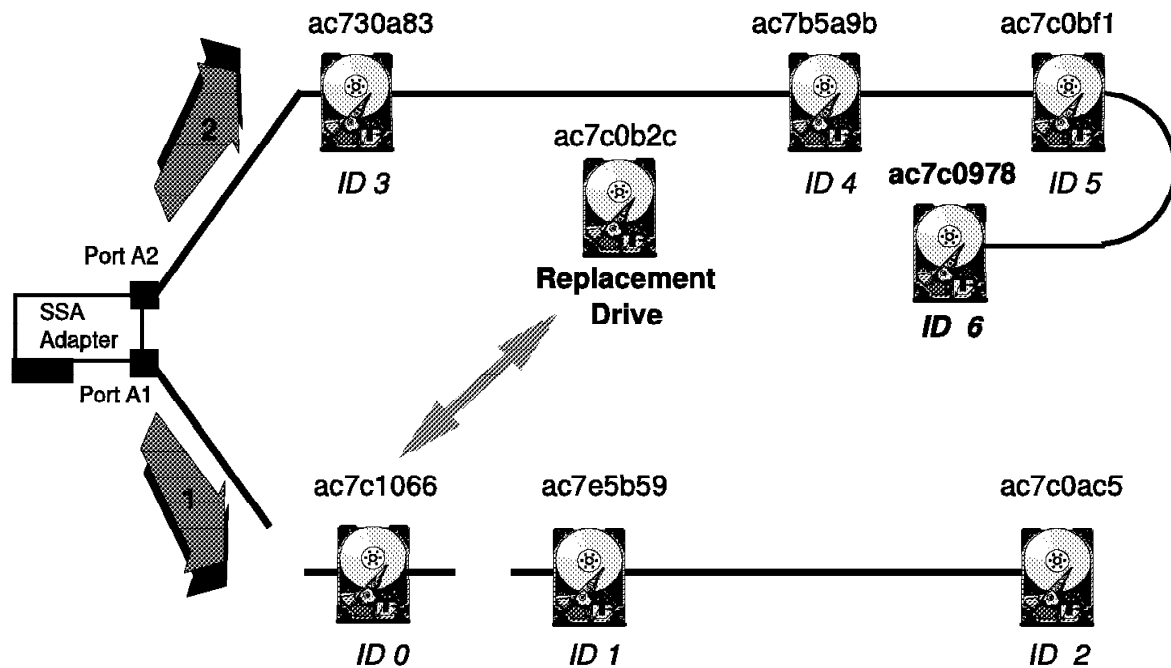

Figure 125. Inserting a Drive Between Nodes on an Adapter String
1. Identify the drive to be replaced. In our example, Figure 119 on page 164, we will replace drive ID 0 with the replacement drive UID **ac7c0b2c** as in Figure 125.